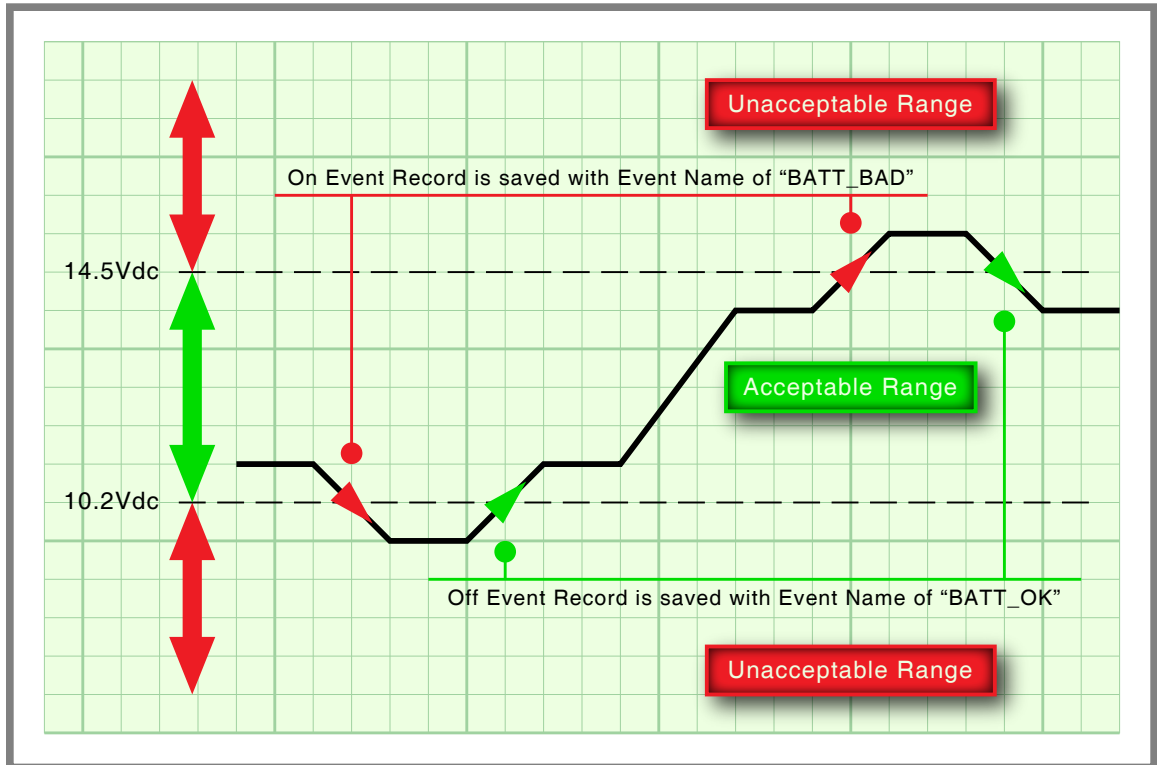

Figure 4: Analog Input Operating Ranges and Limit Values
Figure 4 on page 28 illustrates the relationship of the High and Low Limit Values to the Analog Input state. Each range defines the type of Event Record that is created by transitions of the input. The figure depicts an Analog Input configured to monitor a typical 12Vdc battery source. The figure indicates that the unacceptable range includes all voltages less than 10.2Vdc and all voltages greater than 14.5Vdc. The unacceptable range always consists of two portions separated by the acceptable range. If the input is within the range extending from 10.2 to 14.5Vdc the battery voltage is considered to be acceptable.
**On**—The Digital Input voltage is in the range from 9 to 36 Vdc. The Analog Input level is outside the acceptable range as defined by the region between the Limit Values. Refer to Figure 4 on page 28. The Virtual Input evaluates to a true logic state. The Timer Input has reported a timed interval that is either too